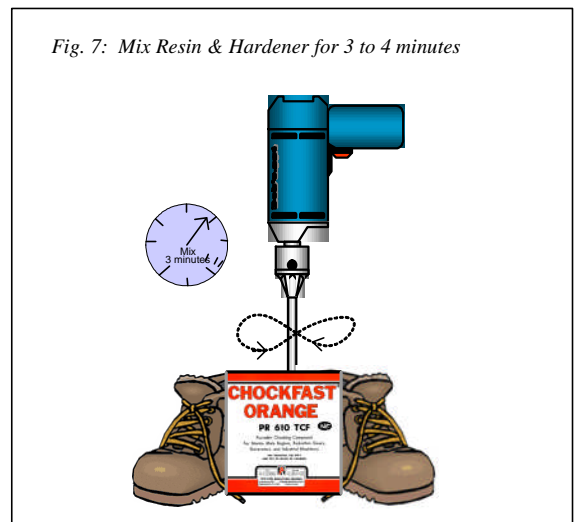

Fig. 7: Mix Resin & Hardener for 3 to 4 minutes
- 6) Add hardener to the resin as needed. Power mix at about 200 RPM (never more than 500 RPM) for 3 minutes using a Jiffy Mixing blade or equal. The mixer should be comfortably seated to hold the can of CHOCKFAST securely between the feet. Keep the blade submerged at all times and traverse the entire can. Make sure the bottom of the can is scoured. See Fig. 7.